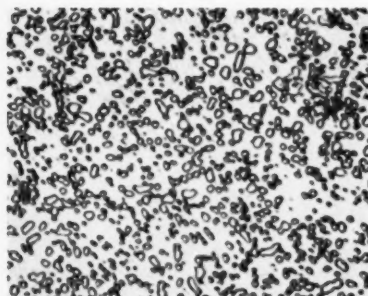

Fig. 3 — Microstructure of annealed carbon tool steel. The spheroidization is essential to good control in heat treatment. X500 4% Picral Etch.
Tool steels should be in a fully annealed condition before hardening. The microstructure should be 100% spheroidized (Fig. 3), which provides maximum machinability and the best possible control of the solution of carbides when heating for hardening. Wear resistance, hardness and dimensional changes may be adversely affected and cracking hazards increased if the steel is not fully annealed.*
Zyglo employs fluorescent penetrants to locate defects in metals and solid materials. Standard type equipment for this process is shown in Figure 3. Inspection with Zyglo consists of five steps: (1) Zyglo Penetrant is applied to the part which is allowed to drain while penetrant is drawn into cracks and other discontinuities; (2) Excess penetrant is removed from the surface of the part by water washing; (3) The part is completely dried in a hot-air, recirculating drier; (4) Zyglo Developing Powder is applied to the part; and (5) the part is examined under near-ultra-
Fig. 3—Is a small Zyglo Unit for fluorescent penetrant inspection. The unit was developed for production inspection of small parts, of tools, for overhaul inspection of small and medium sized parts and in sampling and quality control inspection.